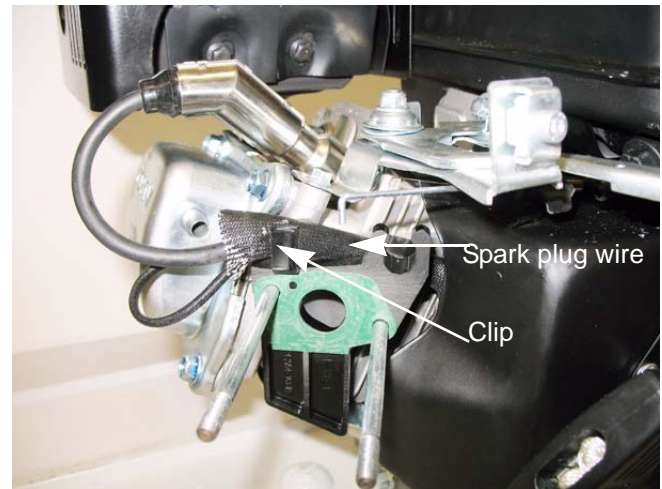

Figure 3.18
3. Unhook the spark plug wire from the clip molded into the insulator plate. See Figure 3.18.